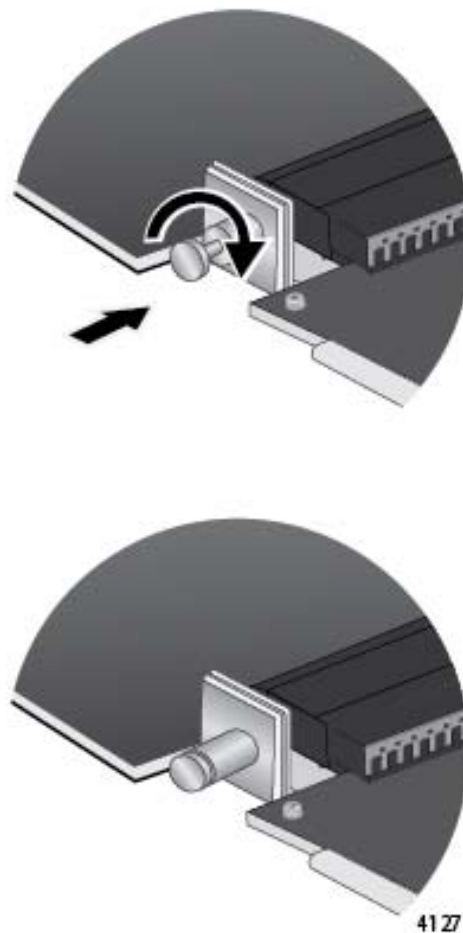

Figure 95. Releasing the Retaining Pin
11. Turn the retaining pin on the side of the line card one quarter turn to release it. Refer to Figure 95 on page 166.